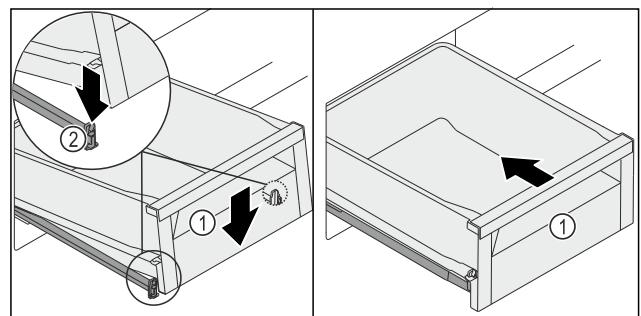

Fig. 137
- ▶ Lower the drawer Fig. 137 (1) at the front so that the drawer slides into the clamp Fig. 137 (2) on the left and right.
- ▶ The drawer Fig. 137 (1) locks in audibly.
- ▶ Push in the drawer Fig. 137 (1).